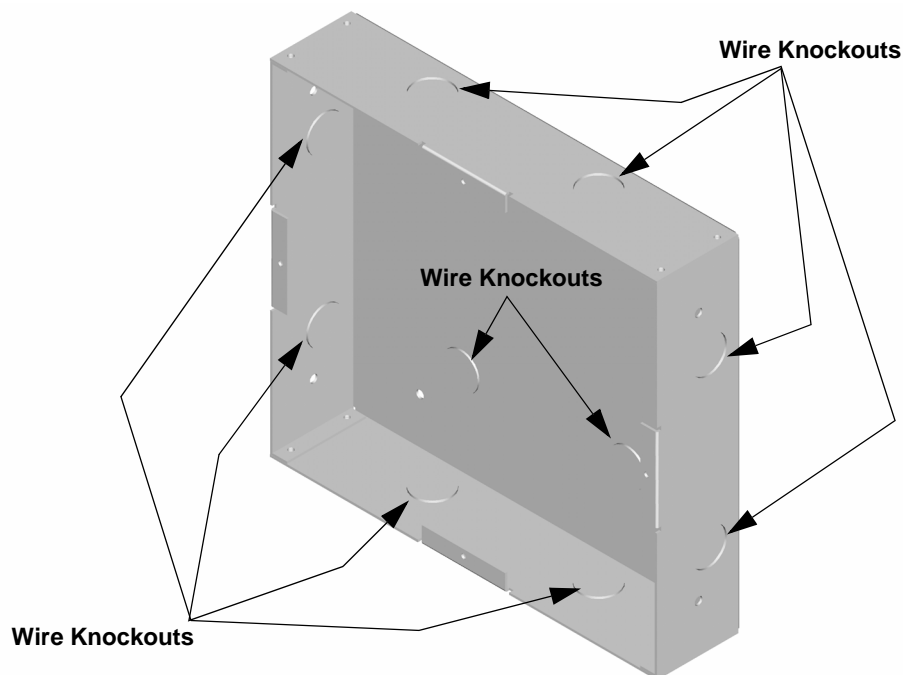

Figure 4.28 Back Box Knockout Locations
2. Remove knockout holes as needed for wires. See Figure 4.28 for backbox knockout locations.
1. Remove the desired knock out. See Figure 4.28.